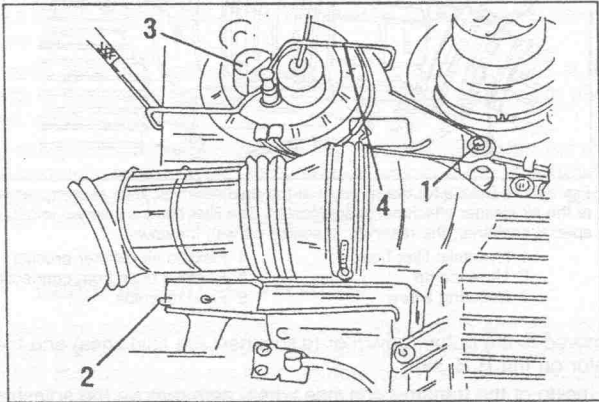

Fig. 3.1. — Details for the removal of the LHM fluid reservoir (see text).
- Refer to Fig. 3.1 and remove the fluid reservoir assembly. We would like to repeat that you must take all possible precautions to prevent contamination of the hydraulic system. Remove the screw (1) and a spring clip (2) and disengage the spring clip (4) across the hydraulic filter head. The filter head must now be lifted out and placed into the Citroën container, as can be seen on the L.H. side of Fig. 3.2. The cover, part of the special tool, is placed over the hydraulic fluid reservoir and secured in position with the large clip. The reservoir can now be removed.